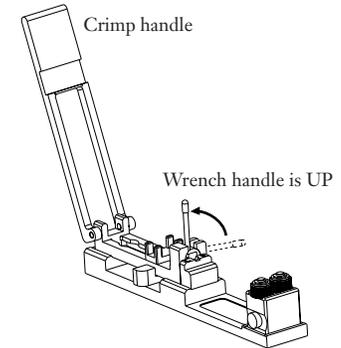

Figure 1
1. When loading connectors into the tool, the wrench handle on the installation tool must be in the **up** position (Figure 1).